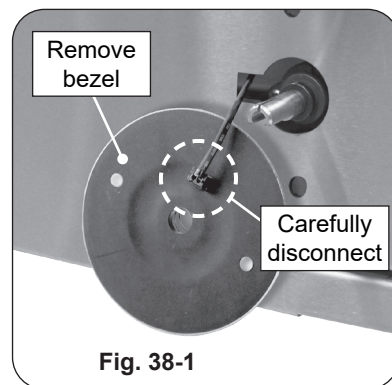

Fig. 38-1
4. Slowly lift away the lighted bezels to clear the valve stems, and carefully disconnect the wires found on the back of the bezels (use your fingernail). See Fig. 38-1.